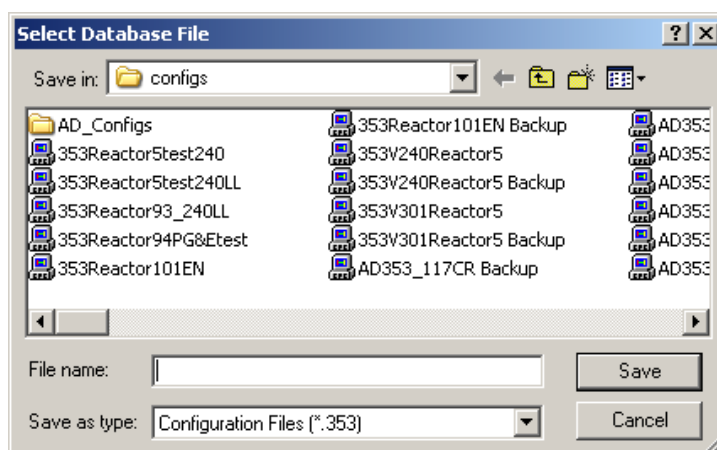

Figure 7-8 Select Database File dialog
1. Select **File > Save** or press **<Ctrl+S>**. If the configuration was previously saved, it will save immediately and the save operation is complete. If not, i|config will open the Select Database File dialog. See Figure 7-8.